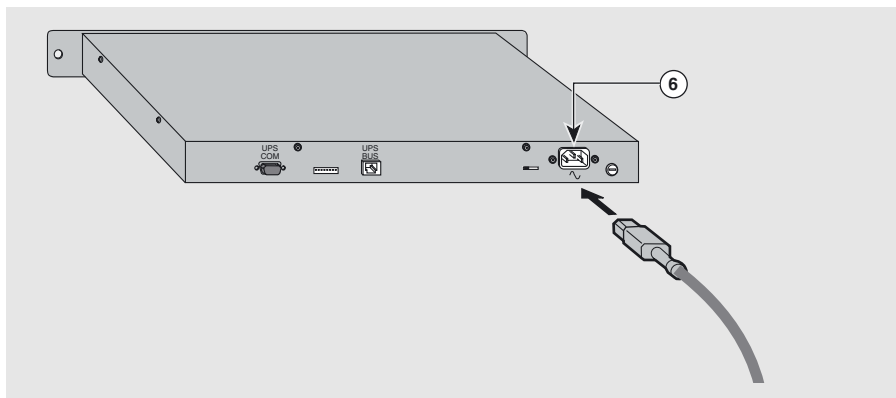

Fig. 4
Once the voltage has been correctly set, insert the cord in the socket ⑥ at the back of the **MultiSlot** module (see figure 4).
- ▶ check that the power cable is properly connected (see figure 4),